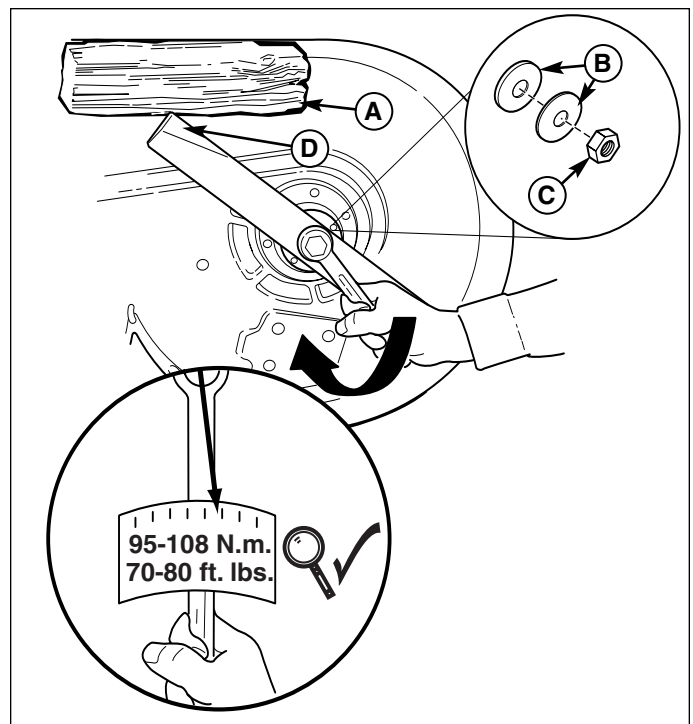

Figure 3. Blade Installation
3. Remove the spring washers (B, Figure 3), blade nut (C), and blade.